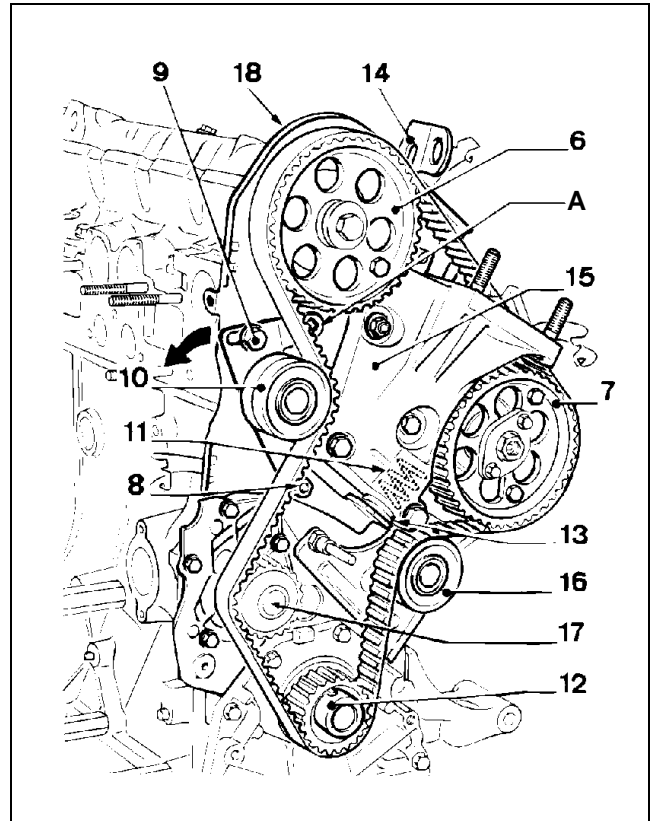

Figure 45
7. Loosen the nut (Fig. 45, Item 8) and the bolt (Item 9), securing the roller tensioner bracket (Item 10).